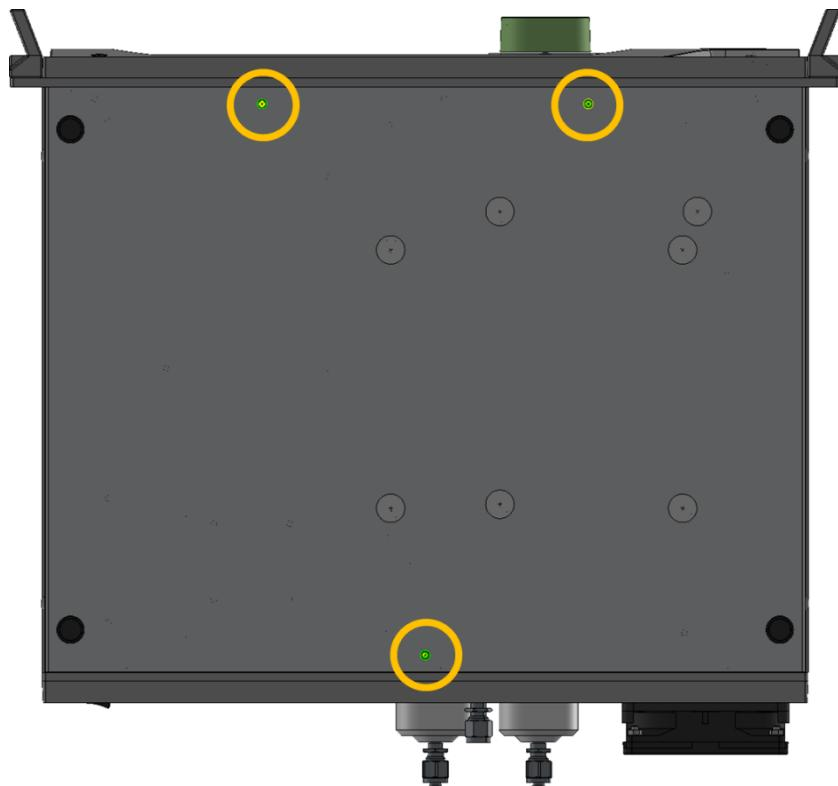

Figure 30. Location of bottom cover screws on the instrument bottom.
- Unscrew 3 pcs of M3x8 mm screws on the bottom. See Figure 30 for locating screws.